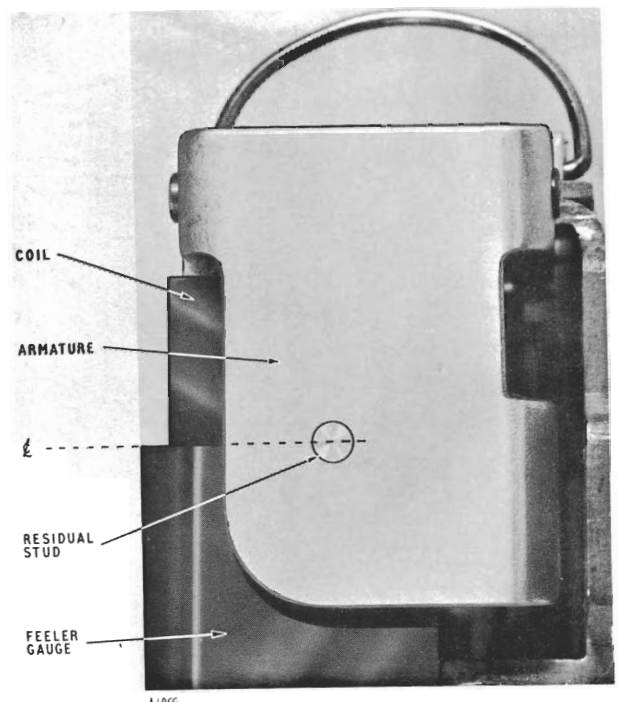

FIG. 5
13. Armature travel.—With the armature normal the gap between the core face and the centre of the residual stud must be 26 to 31 mils (test), 27 to 30 mils (readjust), (see Fig. 5).